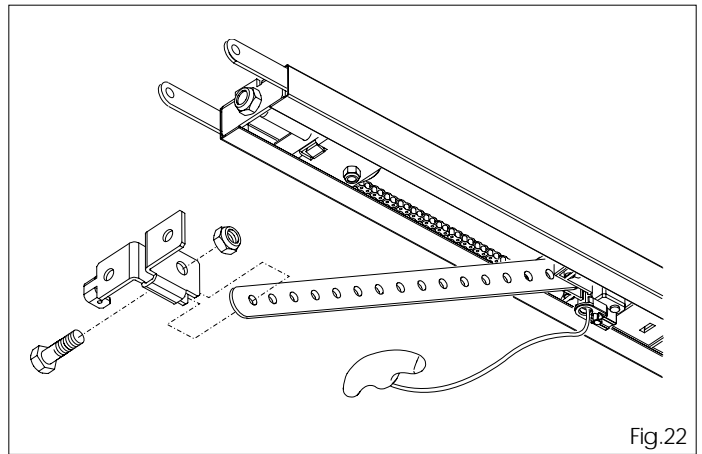

Fig.22
- 6.17 Secure the attachment to the drive shaft, using a suitable screw and nut (fig. 22).